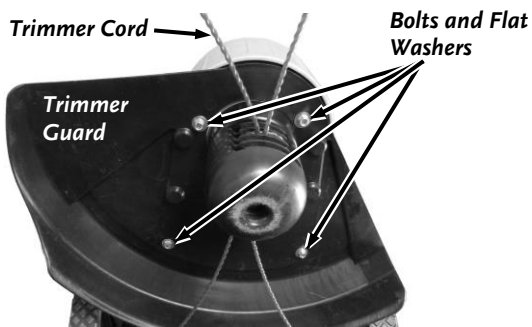

Figure 30
3. Remove the four Trimmer Guard Bolts and Flat Washers with a 3/8" Wrench. Remove the Trimmer Guard (**Figure 30**).
15. Position the Trimmer Guard and secure with the four Bolts and Flat Washers using the 3/8" Wrench (**Figure 30**).